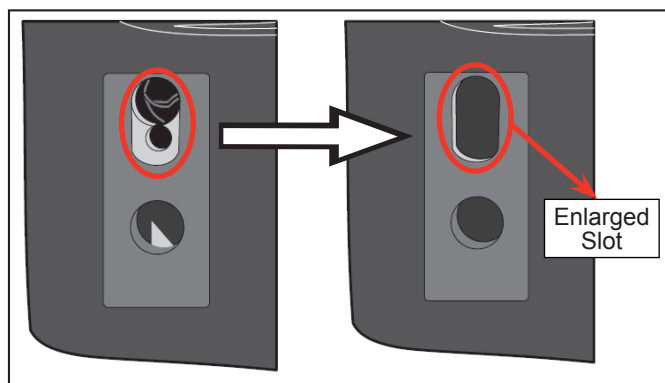

Figure 8 - Creation of Slot
- 1.8.1. Enlarge the existing top two holes to form a slot and debur the lower slot edges (see Figure 8).